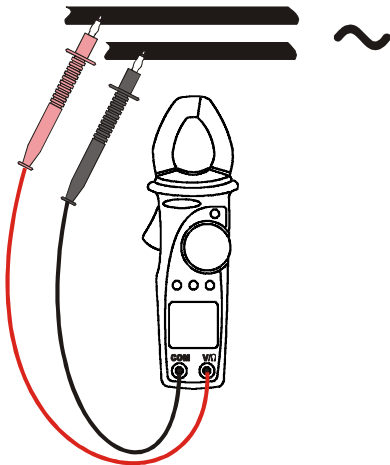
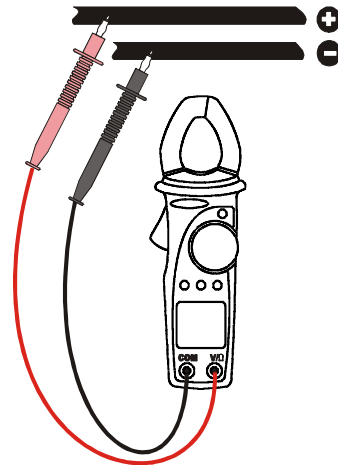

Fig. 4: AC voltage measurement
Fig. 5: DC voltage measurement
3. Connect the test leads to the circuit under test (see Fig. 4 and Fig. 5). The instrument automatically selects AC or DC. For AC voltage measurements the frequency value is shown on the secondary display.